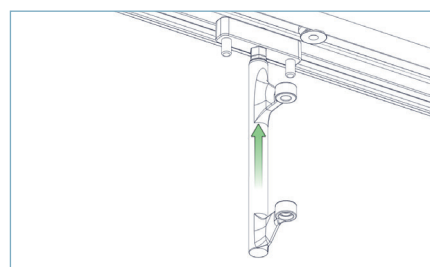

FIG 6D
- ▶ **6.4.** Insert the top fork between two guide wheels and lower down to locate the pins into them from above, as shown in FIG 6D&E. Repeat this process until all top forks are installed.